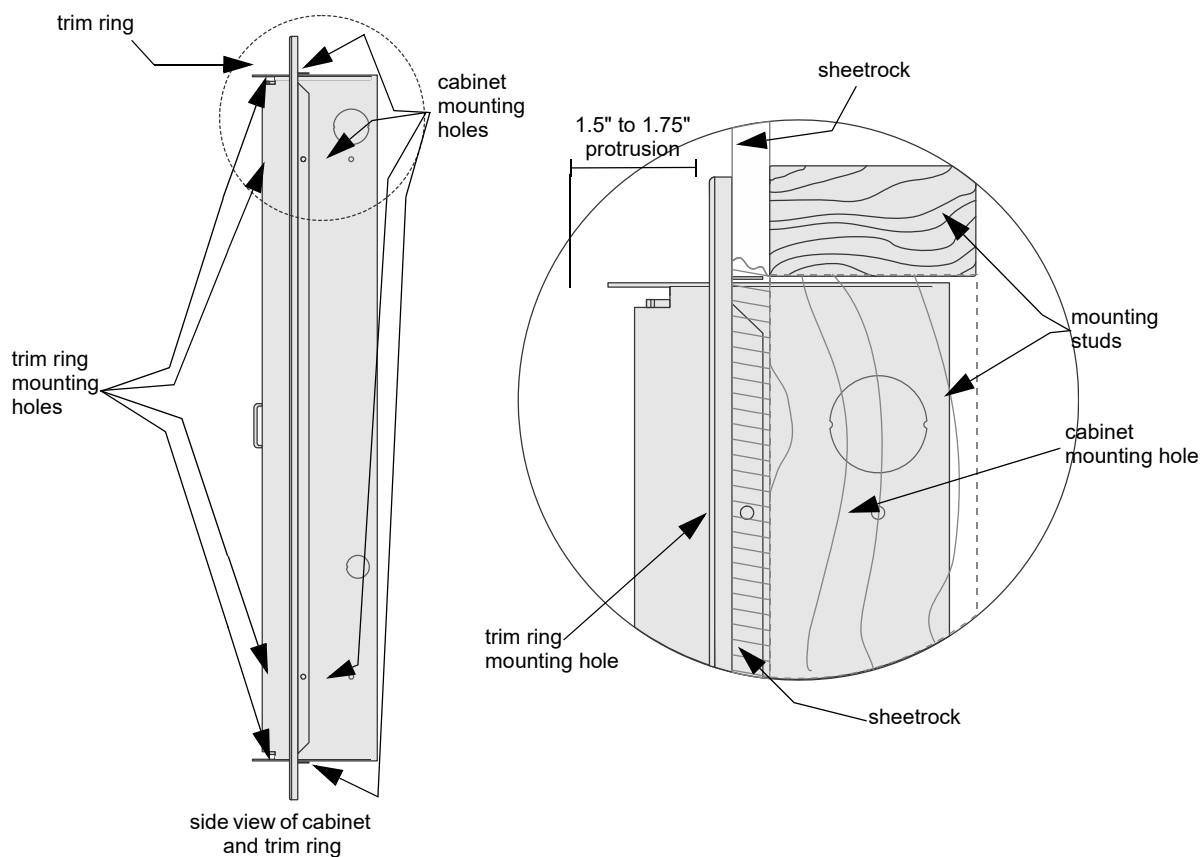

Figure 3.2 Detail of Flush Mounting with Trim Ring
3. There should be dimensions of 1.5" to 1.75" of space between the cabinet extending from the wall. This distance should be measured from either the top edge or bottom edge to the exterior side of the sheet rock. (See Figure 3.2.).